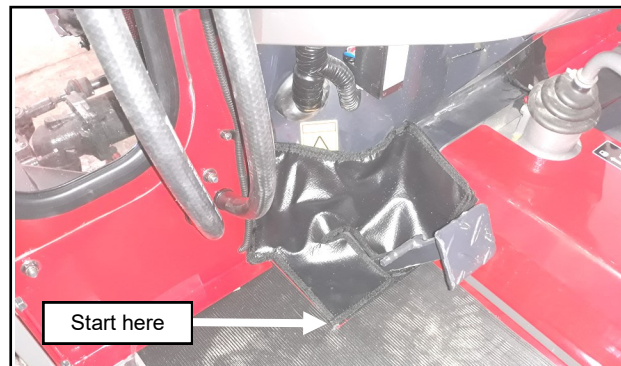

Fig. 19.1 (Set The Left Pedal Filler Into Place)
19.1 Set the left pedal filler in place. See Figure 19.1. Make sure that the clutch pedal holding hook is lifted to rest on top of the filler and at the end of the slot in the filler. Start at the corner shown, and work your way around the front and top, securing the filler as you go. Finish by lining up the other side of the pedal slot and secure the filler to the center tunnel.